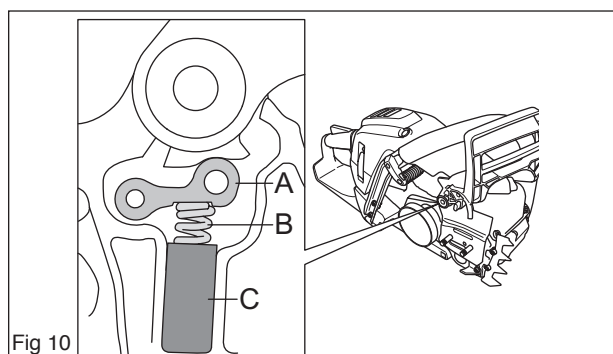

Fig 10
Screw the kickback guard in place and put the rocket in position. Position the spring (B) in the plastic housing (C) (see figure 10) and press the spring against the rocker and then press the plastic housing into its groove. Tighten the chain guide plate in place.